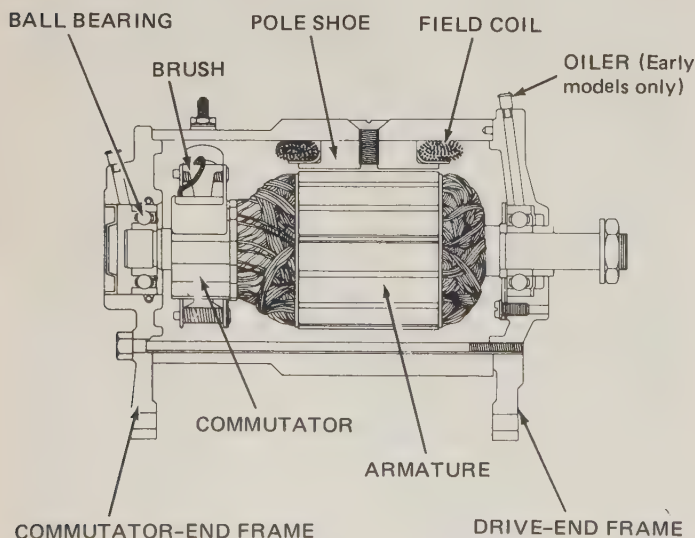

FIG. 28-14 Sectional view of a starter-generator. (Kohler Company)
○ 28-24 **STARTER-GENERATOR SERVICE** In Chap. 24, we covered the servicing of the starter-generator, emphasizing the starter. Now let us consider the servicing of the generator part of the combination unit. Figure 28-14 is a sectional view of the starter-generator.
**Brushes** Brushes should be checked after about every 200 hours of operation. On the unit shown in Fig. 28-14, this requires removal of the two through bolts and the commutator end frame. Some starter-generators have windows in the brush end of the frame; these can be exposed for inspection of the brushes by removal of a cover band. Brushes should be in good condition and making good contact with the commutator. If they are worn down to less than one-half of their original length, they should be replaced. Proper brush-spring tension is important and can be measured with a spring scale. If the tension is not correct or if the springs appear blued or burned, replace them.